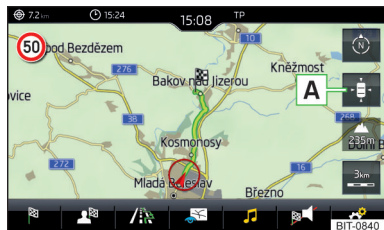

Fig. 184
► To **centre the map**, tap on function surface $\hat{\Phi}$ **A** » Fig. 184.